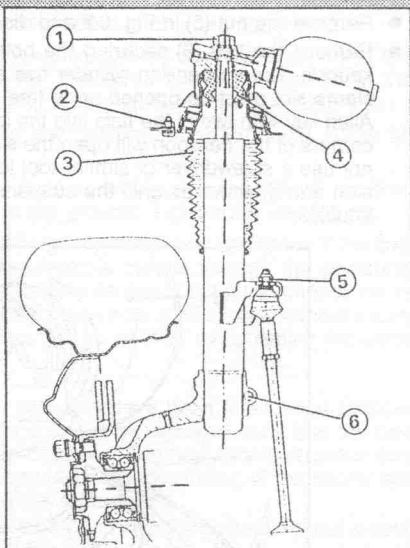

Fig. 6.2. — Sectional view of the front suspension on one side. The numbers refer to the tightening torque values.
The drive shaft is supported by one single bearing inside the swivel joint. A sectional view of the suspension together with the tightening torque values is shown in Fig. 6.2.
- Remove the nut (5) in Fig. 6.2 and disconnect the stabiliser bar linkage.
- Remove the bolt (6) securing the bottom end of the cylinder to the steering knuckle. The suspension cylinder has a tight fit in the steering knuckle and the clamp slot must be opened-up to free the cylinder. To do this, insert an 8 mm Allen key with two of the flats into the clamp slot and rotate the key by 90°. The corners of the hexagon will open the slot far enough to release the tension. Do not use a screwdriver or similar tool to prise the slot apart. Push the suspension arm downwards until the suspension cylinder end is free of the steering knuckle.
- *If the cylinder has been removed without the hydraulic head,* check that the rebound stop (item "4", Fig. 6.2) is fitted over the piston rod and lubricate the cone and the sealing area with engine oil. Coat the threads of the piston rod with "Loctite" and insert the cylinder from below. Fit and tighten the nut (1) in
- With the clamp slot of the steering knuckle opened as described, insert the lower end of the cylinder, with the rib centred in the clamp slot. Push the cylinder fully home and tighten the bolt (6) in Fig. 6.2 to 5.2 kgm (36.5 ft.lb.).
- Re-connect the stabiliser bar linkage and tighten the nut (5) in Fig. 6.2 to 3.0 kgm (22 ft.lb.).
- Remove the nuts securing the anti-roll bar linkage at the top ("5", Fig. 6.2).